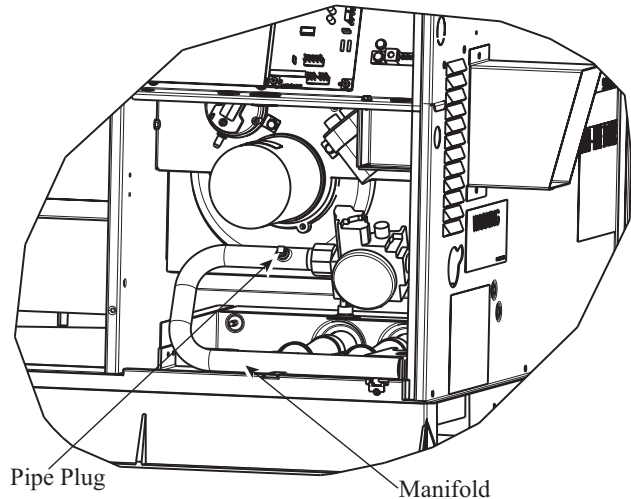

Fig. 13 - Burner Assembly
2. Remove pipe plug on manifold (See Fig. 13) and connect manometer. Turn on gas supply to unit.
6. Turn off gas supply to unit. Remove manometer from pressure tap and replace pipe plug on manifold (see Fig. 13). Turn on gas and check for leaks